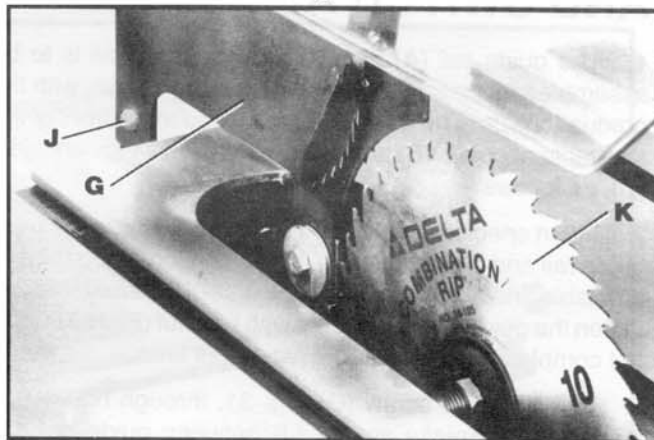

Fig. 25
8. Fasten the rear of the blade and splitter bracket assembly (G) Fig. 25, to the rear splitter mounting bracket using the 1/2" carriage bolt (J), flat washer and hex nut. Assemble the saw blade (K) on the saw arbor, with two arbor wrenches supplied.